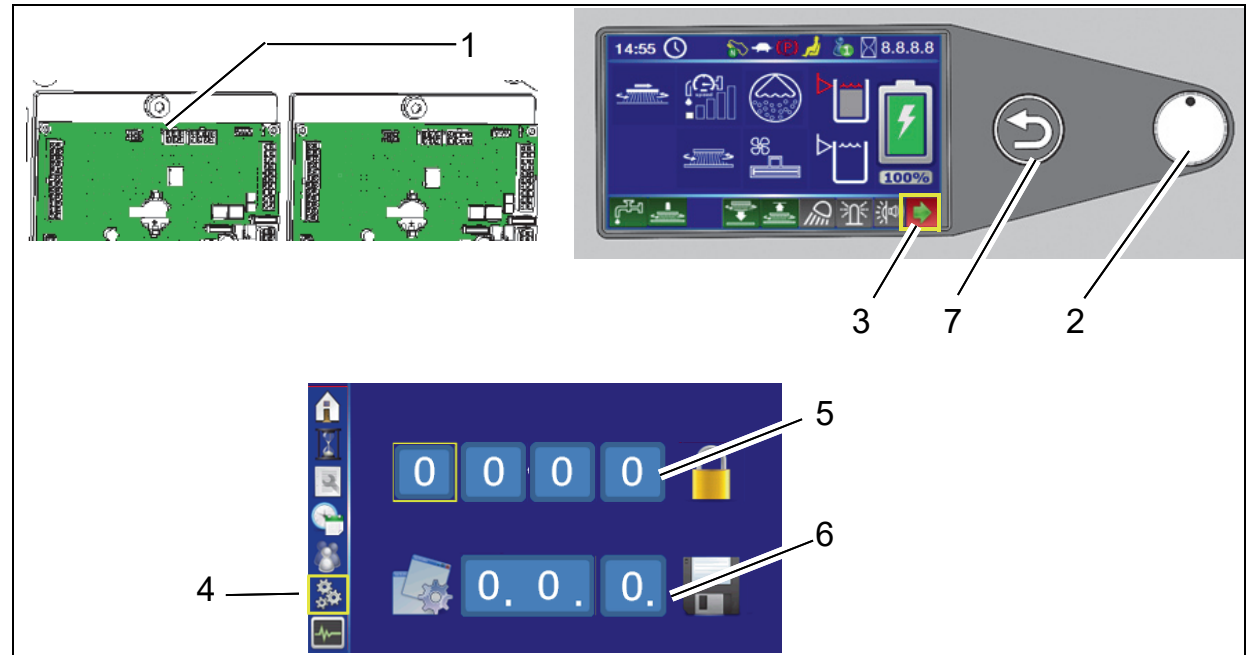

Fig. 7
Plug diagnostic connector into slot X20 of controller A1 (Fig. 7/1).
2. Select the arrow soft key (Fig. 7/3) on the control panel using the turn-push knob (Fig. 7/2) and press to access the sub-menu.
3. Select the configuration menu in the sub-menu (Fig. 7/4).
4. Enter the 4-digit code in the configuration menu at the top (Fig. 7/5):
In the configuration menu at the bottom (Fig. 7/6), set the value of the option and save by pressing the turn-push knob. After confirming the last digit, OK? appears. Press the turn-push knob again to save the value. Saved value is displayed in green. If the value is not to be saved, exit menu using the return key (Fig. 7/7).